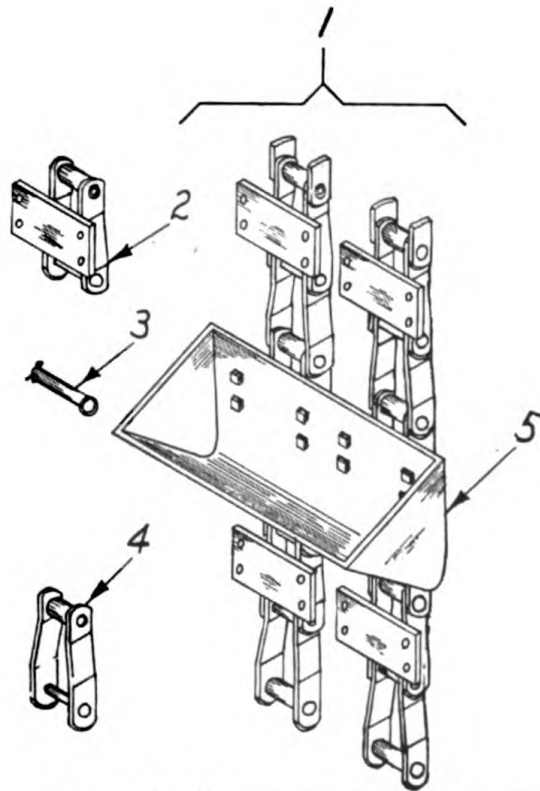

Figure 81. Showing buckets and parts.
The bucket line assembly (1) Figure 81 carries the material from the feed end to the discharge point. The assembly is made up of two continuous chains on which the buckets (5) are bolted to attachment links (2) every 12". The bucket line running around the foot sprockets drives the spiral feed.